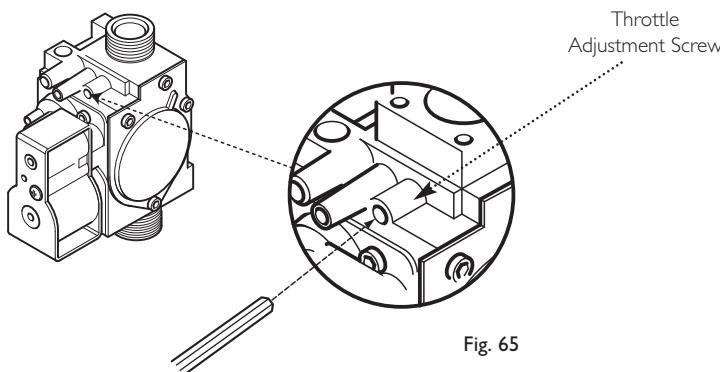

Fig. 65
**NOTE:** To assist the boiler to light prior to final setting, use a suitable hexagon key to wind out the Throttle adjustment screw until it is flush with the valve body, then turn the screw 4 full turns clockwise (Fig. 65). If the boiler will not light, or the correct CO2 cannot be achieved contact the 'heatteam' technical helpline.